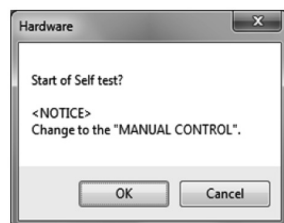

Fig.103
- ③ Click the "OK" button to display a message box (Fig. 103).